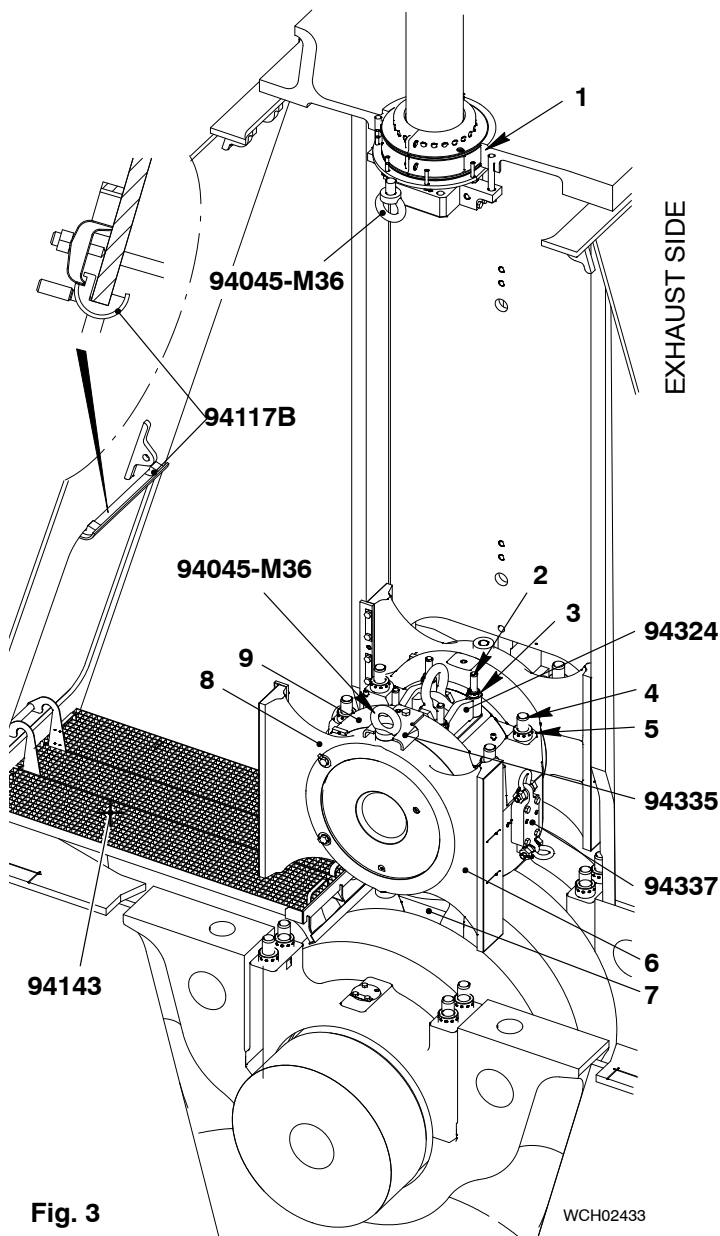

Fig. 3
- 1) Install the platform (94143, Fig. 3).
- 2) Install an eye bolt (94045-M36) to a position near the gland box (1).
- 3) Install an eye bolt (94045-M36) to the guide shoe (8) below the eye bolt near the gland box.
- 5) Apply tension to the four elastic studs (4) of the connecting rod, refer to 9403 4.
- 6) Remove the four round nuts (5).
- 7) Put the lifting tool (94324) on the elastic studs (2).
- 8) Attach the round nuts (5) to the elastic studs (4).
- 9) Tighten the round nuts (5) with the round bar (94005).
- 10) Install the stop plate (94335) to the bearing cover (9).